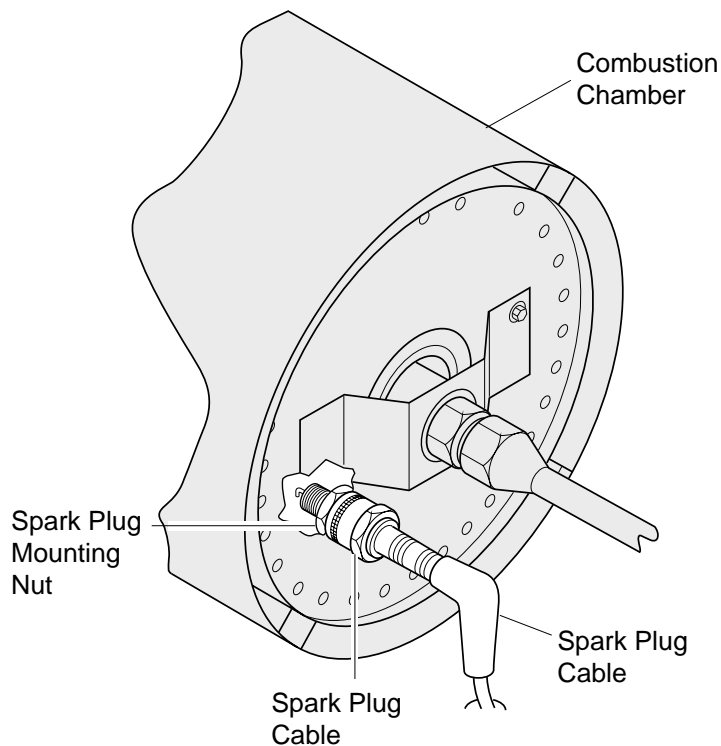

Figure 12 - Spark Plug and Spark Plug Mounting Nut Location on Combustion Chamber
4. Place 11/16" socket onto spark plug mounting nut. Spark plug mounting nut is located on spark plug threads inside combustion chamber (see Figures 12 and 14).